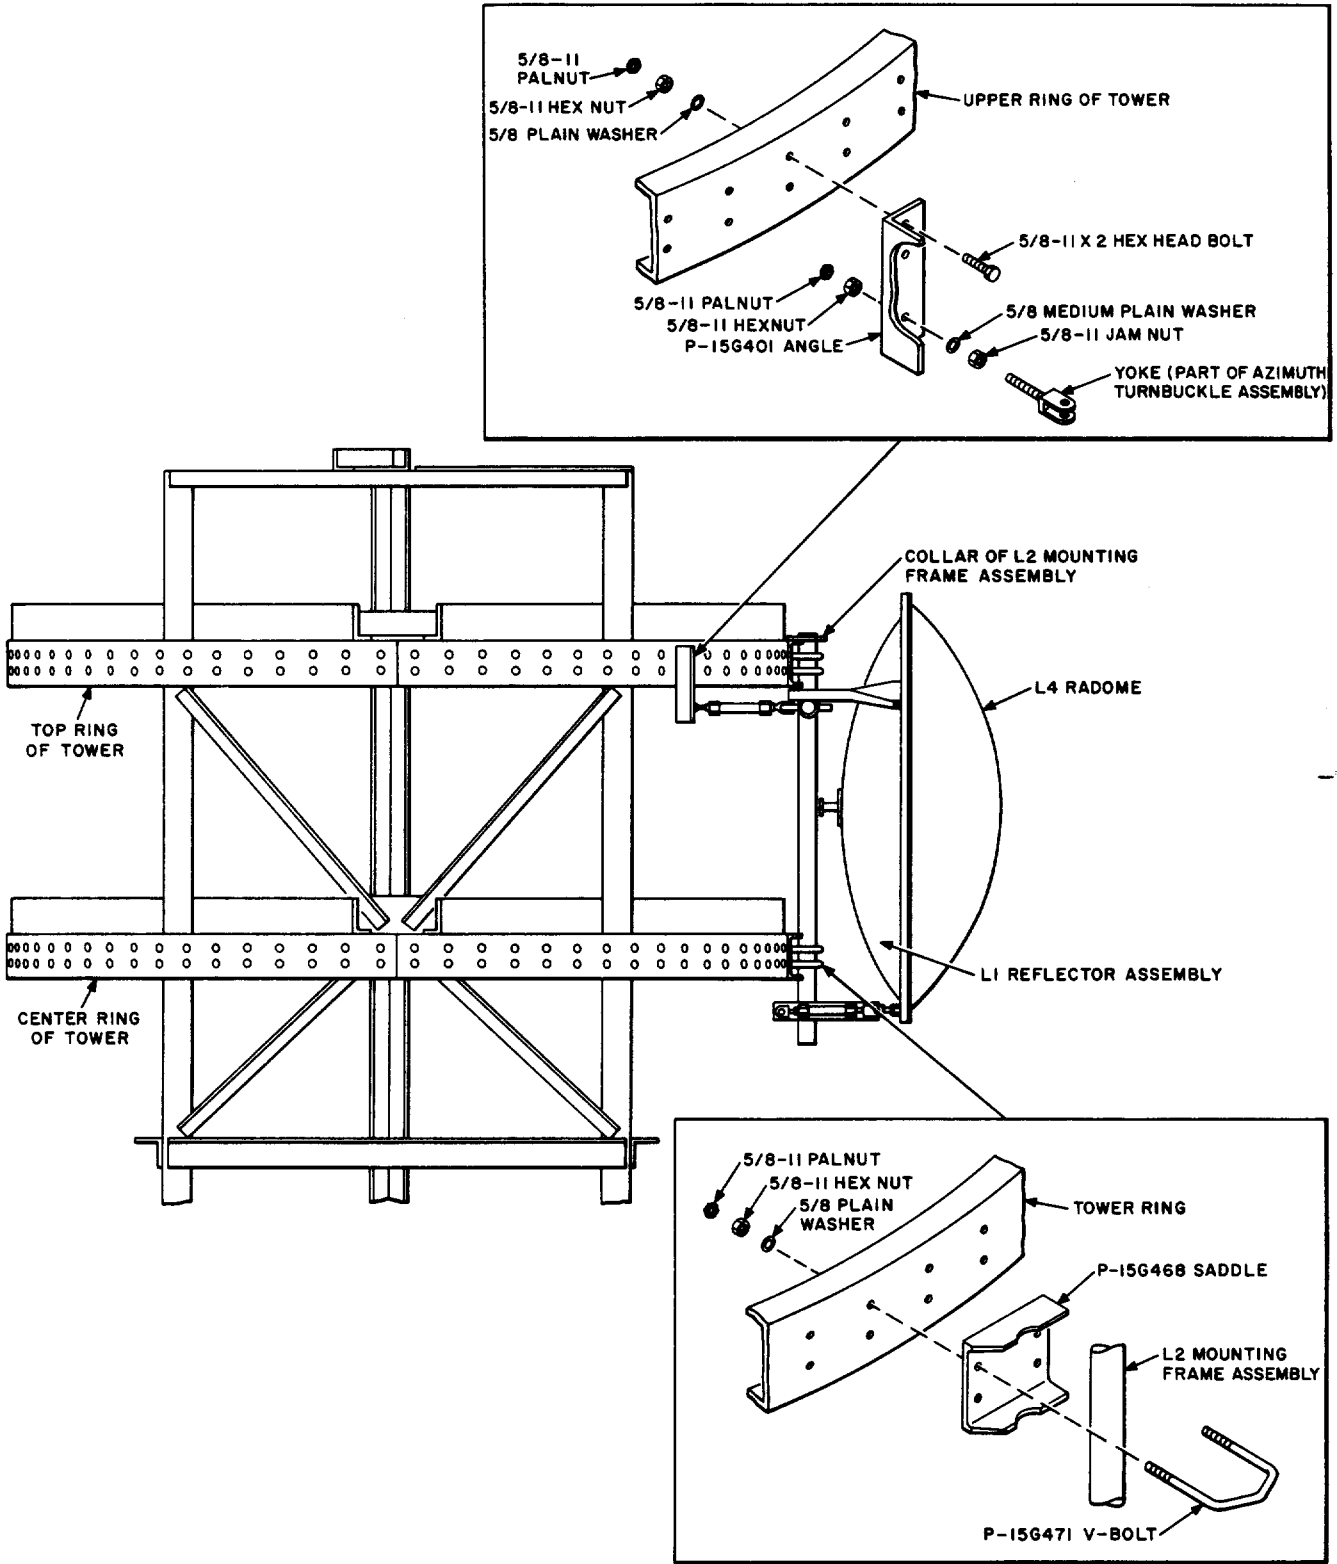

Fig. 7—Mounting on B Self-Supporting Tower
**5.15** Hoist the antenna to the installation level. Place two P-15G468 saddles between the vertical member of the mounting frame assembly and the top and center mounting rings of the tower (Fig. 7). The collar of the mounting frame assembly should rest on top of the upper saddle.
**5.16** Attach the saddles and the mounting frame to the tower rings using the two P-15G471 V-bolts, four 5/8 plain washers, 5/8-11 hex nuts, and Palnuts as shown in Fig. 7. Do not tighten securely until the azimuth adjusting arm is installed and the antenna mechanically oriented.
Fig. 7. Swing the turnbuckle and angle to the circular ring and attach the angle to the nearest set of holes on the ring. Minor adjustment may be necessary for hole alignment.